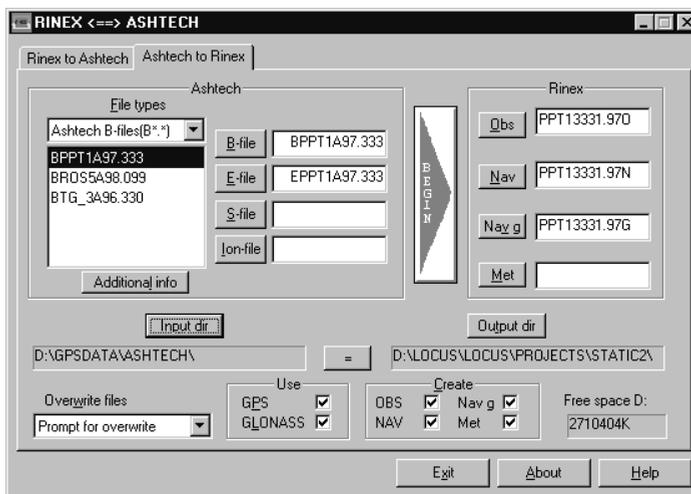

Figure B.8. Ashtech Files in Selected Ashtech Input Directory
- The **Input Directory** lists the directory path, and **Available Files** list lists the Rinex files in the input directory (Figure B.8).